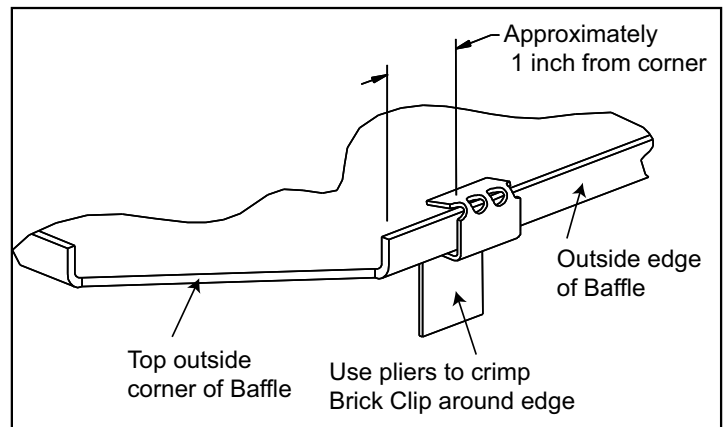
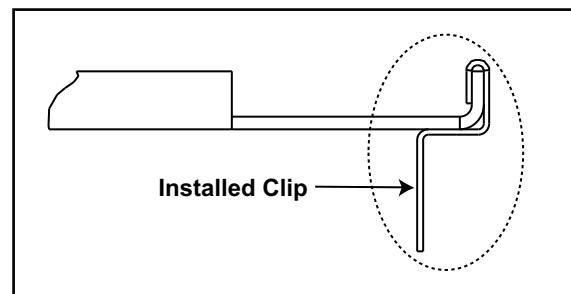

Figure 19.4
Figure 19.5
3. Using pliers, bend the brick clip slightly past 90° in the direction shown in **Figure 19.4**.
4. Position the brick clip as shown in **Figure 19.4** and use pliers to crimp around the outside edge of the baffle as shown in **Figure 19.5**.
Note: Figure 19.5 shows the finished shape of the brick clip, after being bent around the outside edge of the baffle.